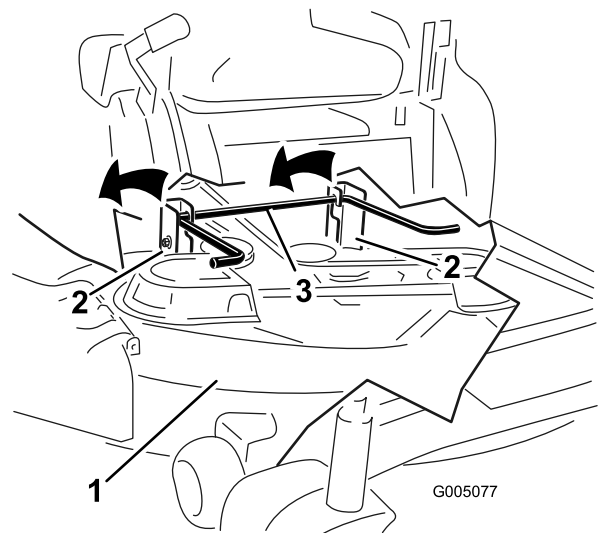

Figure 125
6. Lift the mower deck and hanger brackets clear of the rear lift rod and lower the mower carefully to the ground (Figure 125).